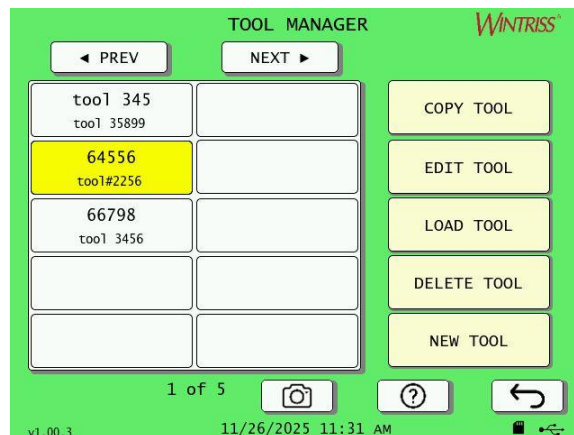

Figure 4-3. Tool Manager Screen
1. On the Main Program menu, Figure 4-2, press TOOL MANAGER. The Tool Manager screen appears, Figure 4-3. This shows the tools that are already programmed, if any. If a tool is currently loaded, it is highlighted in yellow.
On the Tool Manager screen, Figure 4-3, press the tool you want to edit. It is highlighted green to indicate it is selected. Press EDIT TOOL. The program tool screen appears. Edit the tool according to *Programming or Editing a Tool*, page 204.